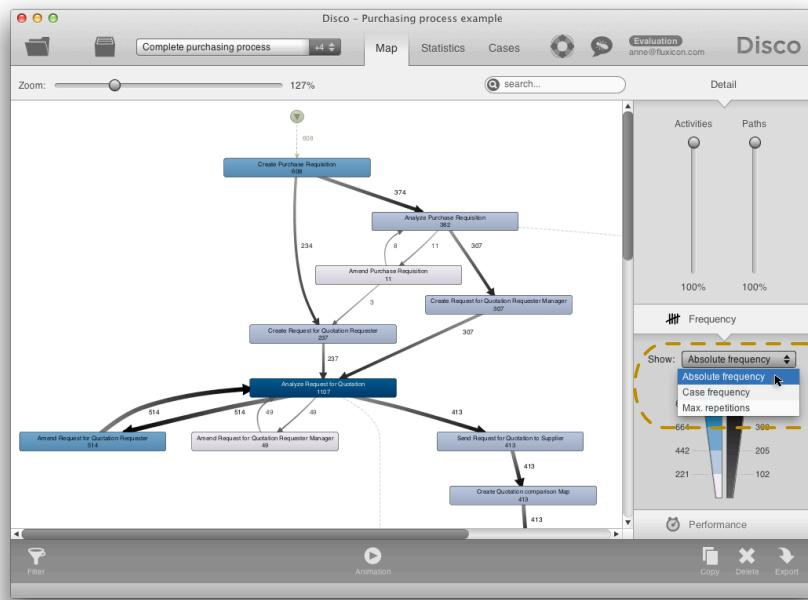

Fig. 4.11. Within the Frequency or Performance view, you can select the metric that you want to display from the drop-down list as shown here.
Frequency The frequency metrics show you which parts of your process have been executed most often. You can change between them like shown in Figure 4.11.
- *Absolute frequency*. This is the default view based on total frequencies as explained in the beginning of this section (see also Figure 4.11).
An example of the *Case frequency* view is shown in Figure 4.12, where—in contrast to the absolute view in Figure 4.11—it now becomes visible that out of 608 cases 231 went through the loop with activity *Amend Request for Quotation Requester*.